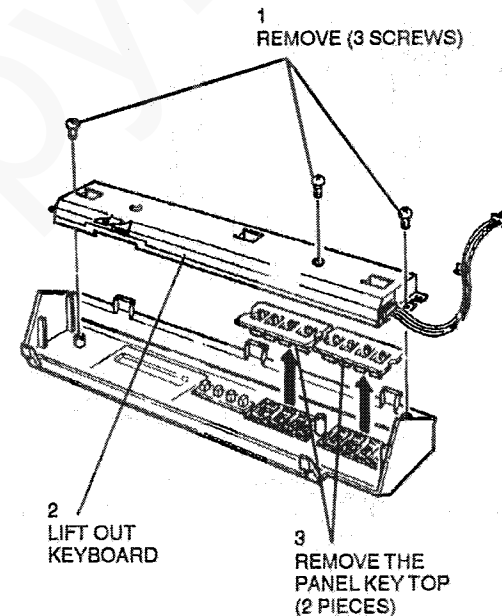

Figure 1. Panel key top removal
2. (Figure 1) Remove the panel key top.